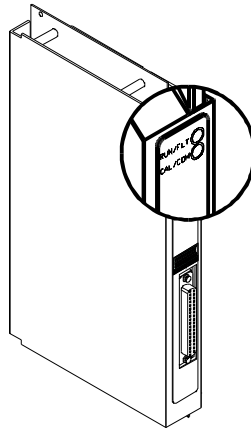

FIG. 4-1 LED'S
- Step 2. If there is power to the module, the Run/Fault LED should be lit. (See Fig. 4-1) The CAL/COM LED should be off.